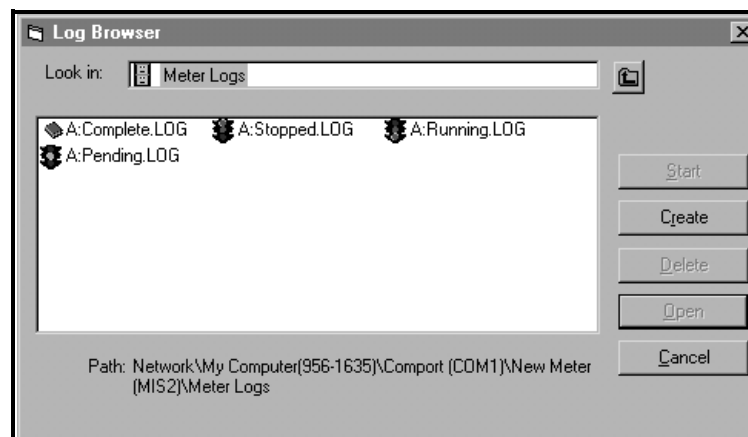

Figure 5-2: Log Browser Window
3. Double-click on *PC Logs* to access the stored PC logs, or on the *communication port name* and the *meter name* to access the stored meter logs. In either case, the *Log Browser* appears similar to Figure 5-2 below.